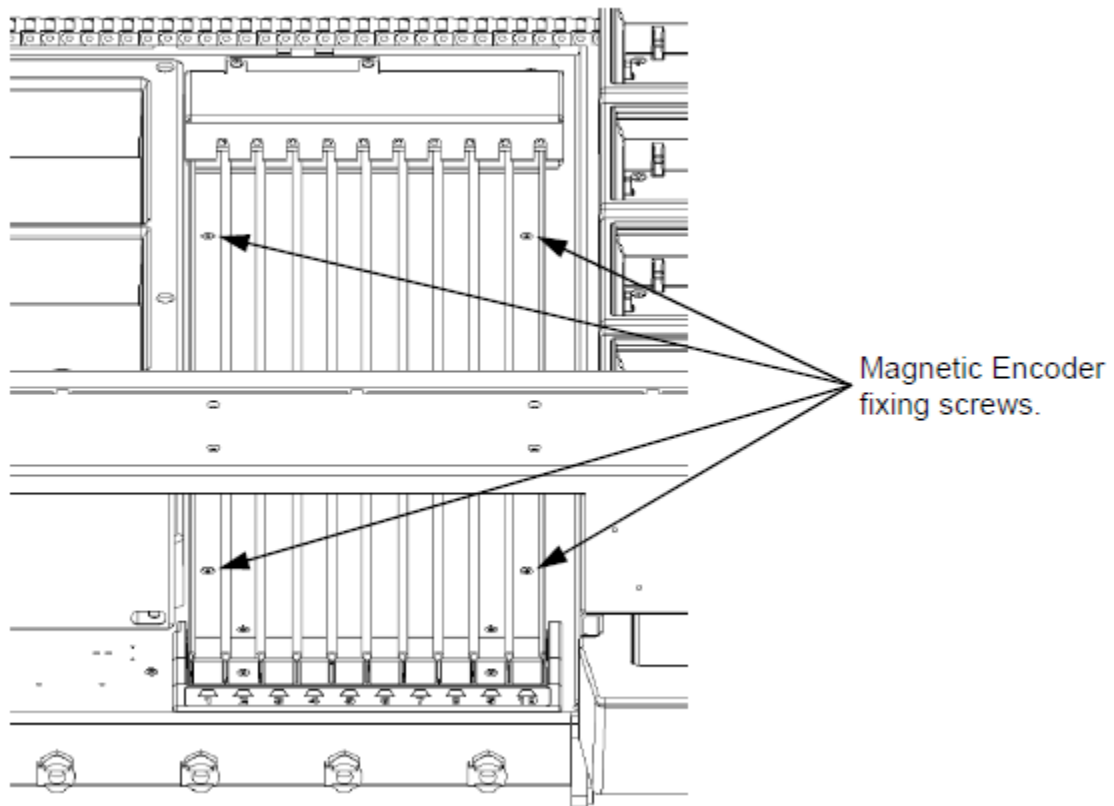

Figure L-1: Magnetic Encoder Attachment Screws
1. Unscrew the four M3x6 Posi Head fixing screws as shown in Figure L-1.